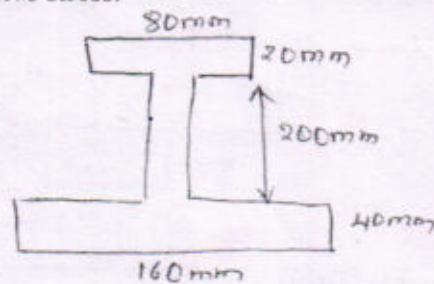

Fig.Q7(b)
- b. A cast iron beam section shown in Fig.Q7(b) is freely supported on a span of 5m. IF the tensile stress is not to exceed 20 N/mm². Find the safe UDL which the beam can carry. Find also the maximum compressive stress. (10 Marks)